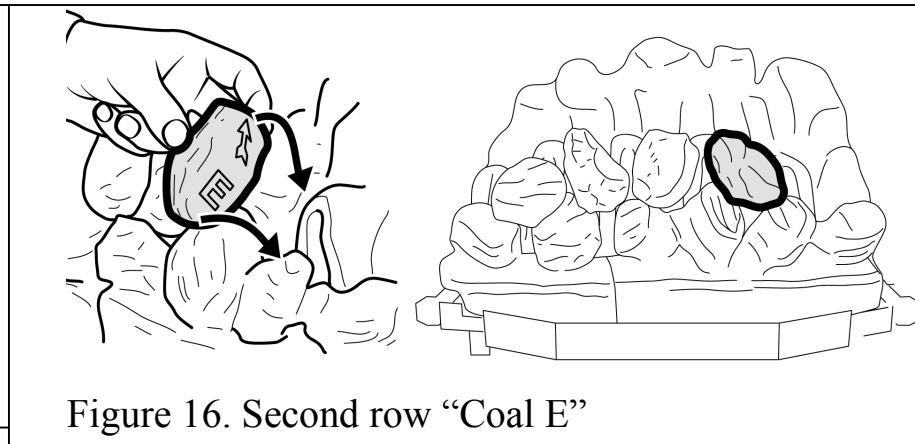

Figure 16. Second row "Coal E"
12. Hold coal 'E' upright with the arrow pointing to the top. Locate coal 'E' as shown in figure 16.